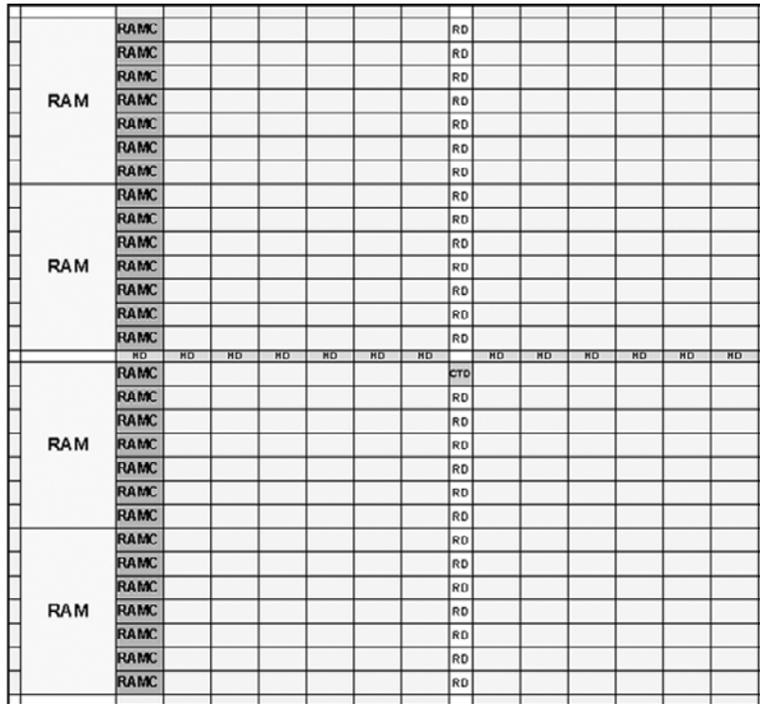
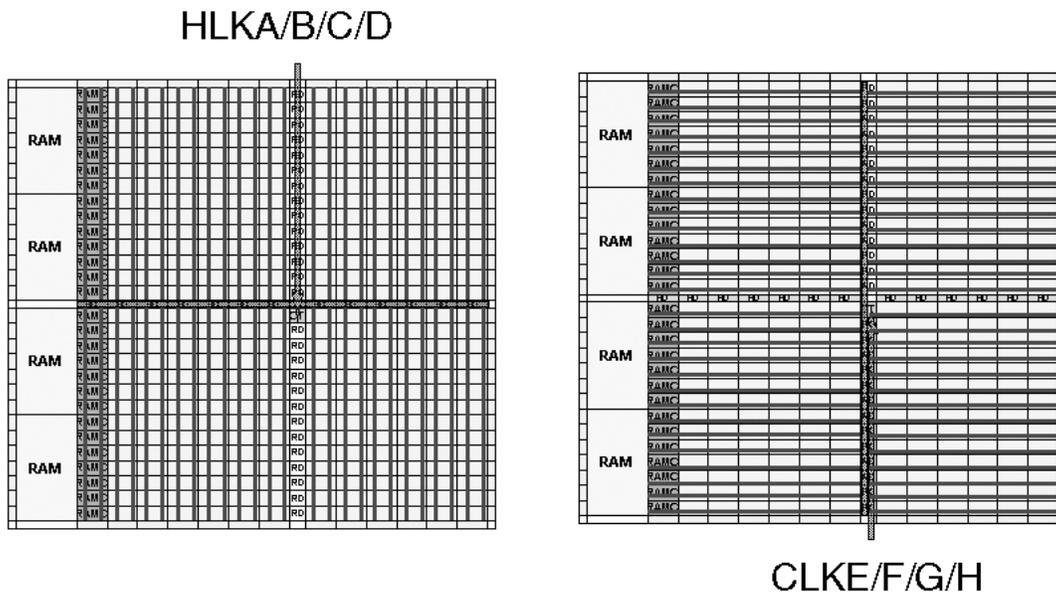

Figure 2-40 • CTD, CD, and HD Module Layout
Figure 2-41 • HCLK and CLK Distribution within a Core Tile
vertically through the center of the core tile to CLKRowDist (RD) modules in every SuperCluster row. Together, the HCLK and CLK branches provide for a low-skew global fanout within the core tile (Figure 2-40 and Figure 2-41).